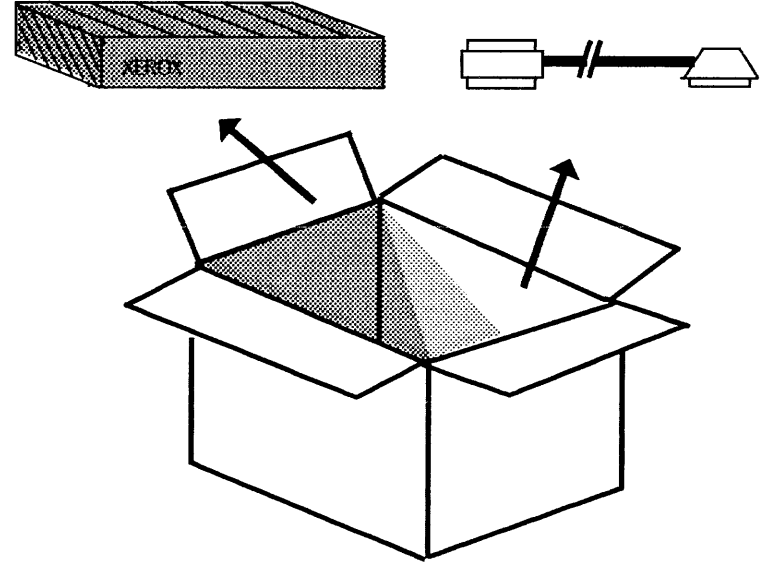

Figure 12. Unpacking the Cartridge Tape Drive
1. Unpack the box marked "Cartridge Tape Drive." (Figure 12)